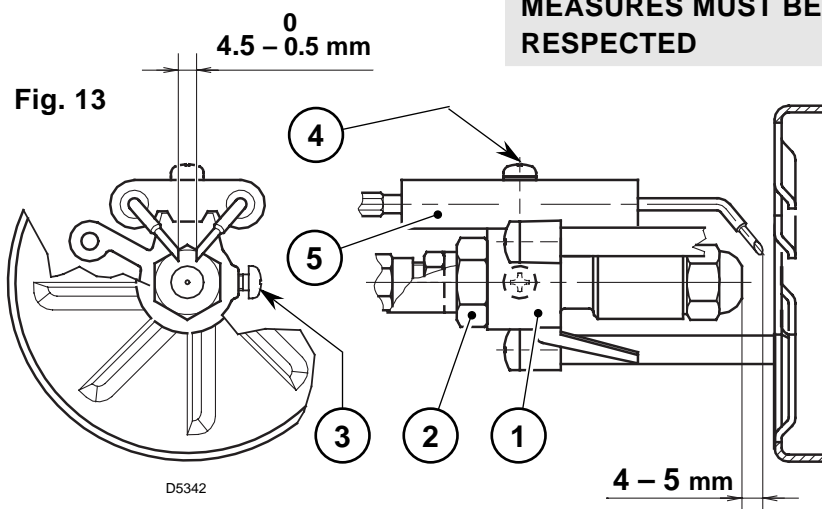

Fig. 13
- Hook the burner to the flange (1), by removing the blast tube (2) after loosing the fixing screws (3).
- Remove the small cables (4) from the electrodes and the diffuser disc-holder assembly (5) from the nozzle-holder assembly after loosing its fixing screw (3, fig. 13, page 7).
- **Screw the nozzle (6) correctly and tighten it as shown in the figure.**
- Remove nozzle-holder assembly (1) after loosening screws (2) and nut (3), remove the small cables (4) from the control box and the photoresistance (5).
- Withdraw the small cables (4) from the electrodes, remove the diffuser disc-holder assembly (8) from the nozzle-holder assembly (1) after loosening screw (3, fig. 13).
- **Screw the nozzle (9) correctly and tighten it as shown in figure.**
## 4.4 ELECTRODES ADJUSTMENT (see fig. 13)
- Replace the nozzle (see fig. 12, page 7) and check the correct position of electrodes (fig. 13, page 7).